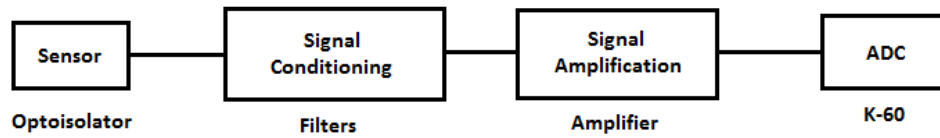
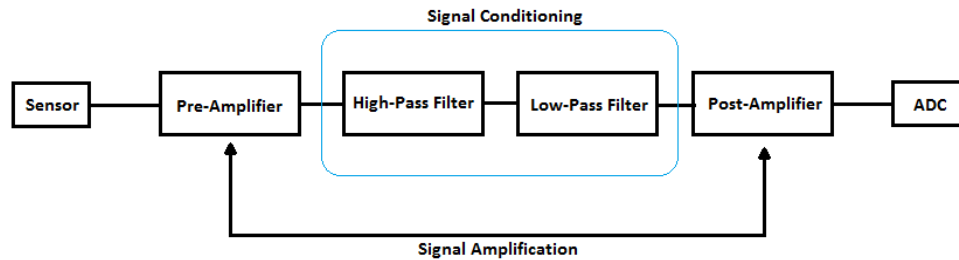

Figure 8.1: HRM Simple Block Diagram
Figure 8.2: HRM Complete Block Diagram
Prior to any MCU interaction, however, the analog signal must first be acquired, amplified, and conditioned for use. The opto-isolator is able to sense small changes and variations in reflected light as it transmits through blood vessels, reflects off the bone, and transmits through blood vessels again. We will be measuring the reflected light in the fingertip, but we could also measure transmitted light in the fingertip or ear, or measure reflected light off of any bone rich with blood vessels, such as the forehead. In this manner, an analog signal representing the user's heart rate may be acquired. From previous experience, the OPB745 has been shown to be quite noisy. In order to remedy this, a filter must be designed and placed prior to amplification that will allow for a cleaner analog signal to pass into amplification. The second stage of the circuit will provide an adequate amount of gain, which will ideally be adjustable for purposes of testing. Stage three of the circuit may consist of any other necessary signal conditioning, such as elimination of noise provided by ambient light sources. The final stage of signal conditioning may necessitate shifting the level of the analog signal to that which is acceptable by the MCU. Figure 8.1 shows the basic Block Diagram of the Heart Rate Monitor (HRM) system. Figure 8.2 shows a more in-depth Block Diagram, similar to how you will be creating yours.
- Students will build the heartbeat monitor using a staged approach to design, and testing as each of the following stages are implemented: sensor, (optional pre-amplifier), high pass filter, low pass filter, conditioning the output to within 0 – 3.3 V. An example block diagram is shown in Figure 8.2.